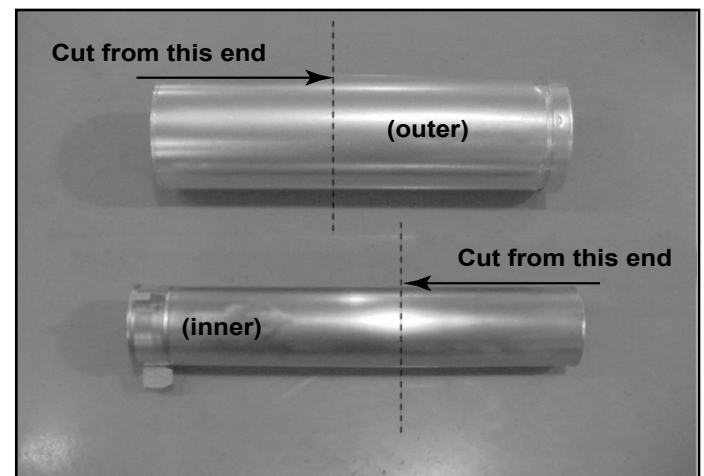

Figure 10.6 MI Sections
- Cut sections to length from the non-expanded end (see Figure 10.6). Maintain 1-1/2 in. (38 mm) overlap.